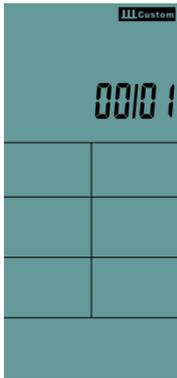

FIG 14
2. LCD display the presetting value 01, press "UP - DOWN" button to setting (setting range 01~20), it is non-recyclable (FIG 14).